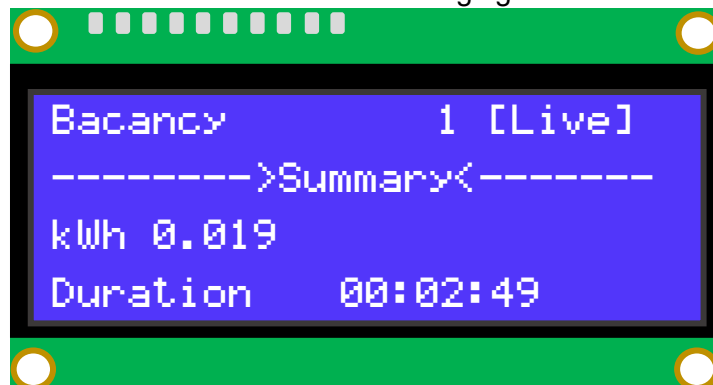

Figure 7 Charging Summary on RFID stop conditions.
5. To stop transactions while in charging mode, tap RFID again. The display will show the charging session's "summary" status on the screen. (Figure 7)